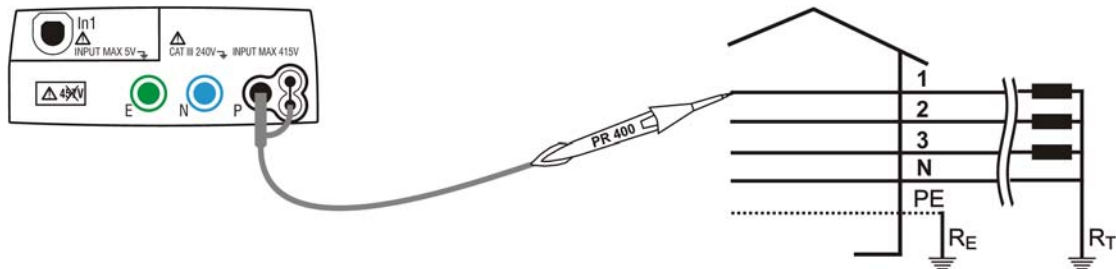
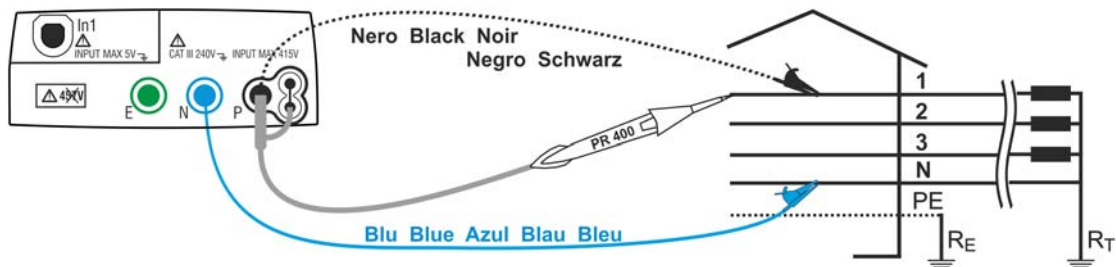

Fig. 24: Instrument connection for measuring the phase sequence with one lead, phase 1 connection
Fig. 25: Instrument connection for measuring the phase sequence with two leads, phase 1 connection
- Insert the blue and black connectors of the single cables into the corresponding input leads N and P of the instrument. Apply the relevant alligator clips to the free ends of the cables. It is also possible to use the remote probe by inserting its multipolar connector into the input lead P. Connect the alligator clips, the probes or the remote probe to the electrical mains according to Fig. 24 and Fig. 25.